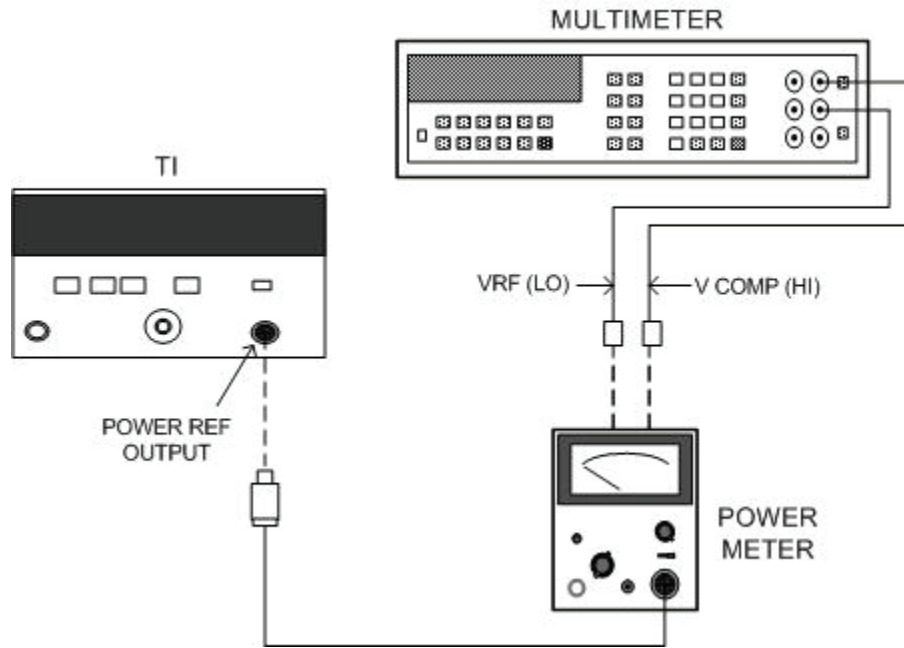

Figure 6. Power reference level - equipment setup.
(1) With power meter off, remove thermistor mount from interconnect cable. Adjust multimeter to measure resistance and connect between V_{RF} connector on rear panel of power meter and pin 1 on thermistor mount end of power meter interconnect cable.
(2) Round off multimeter indication two decimal places and record this value as internal bridge resistance R of power meter (approximately 200Ω).
(3) Reconnect thermistor mount to power meter interconnect cable and connect equipment as shown in figure 6.
(4) Press **TI LINE** pushbutton to **ON** and **POWER REF** pushbutton to off. Set power meter switch to on and wait 30 minutes for thermistor mount to stabilize before proceeding.
(5) Set power meter **RANGE** switch to **COARSE ZERO** and adjust front panel **COARSE ZERO** control for a zero meter indication.
(6) Zero power meter on the most sensitive range, then set power meter **RANGE** switch to **1 mW**